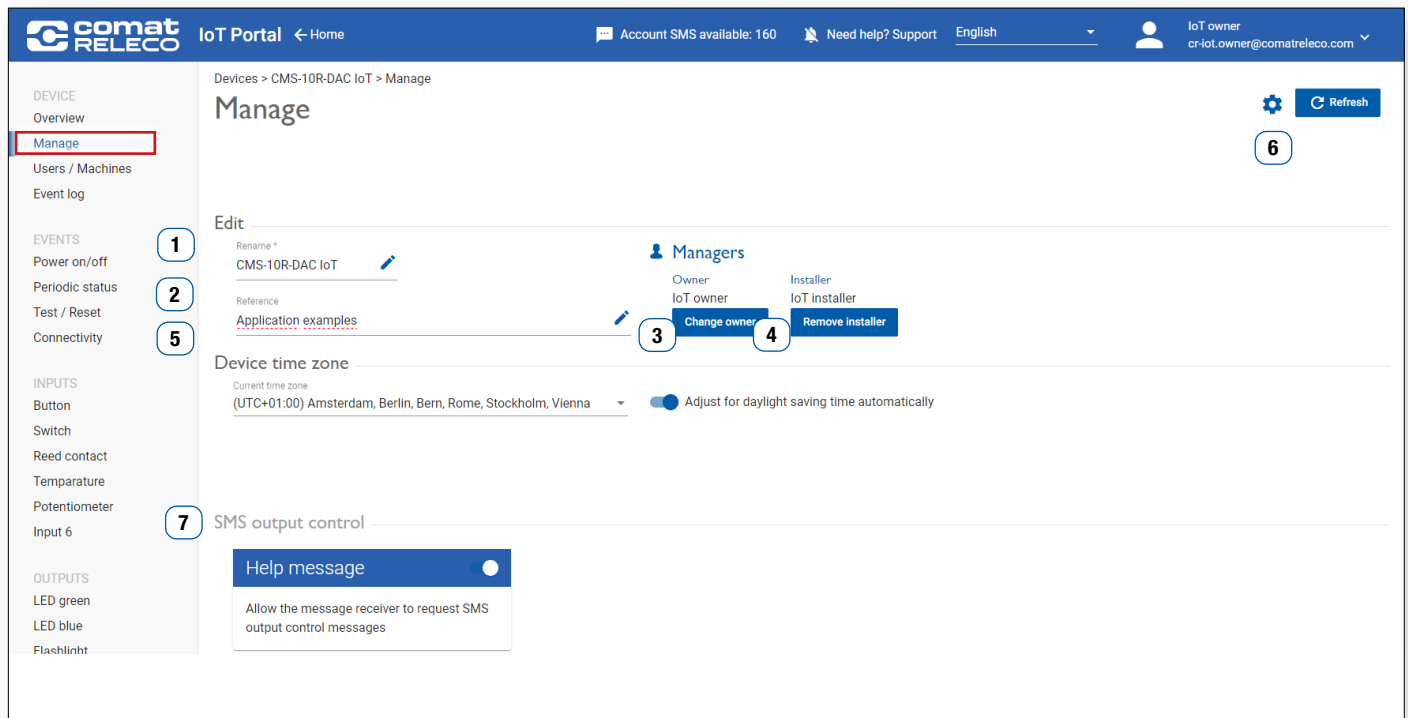

Figure 41
A new owner can be defined with the **Change owner** button (Figure 41 (3)).
The installer can be removed with the **Remove Installer** button (Figure 41 (4)).
The cogwheel icon (Figure 41 (6)) offers you the following settings options: